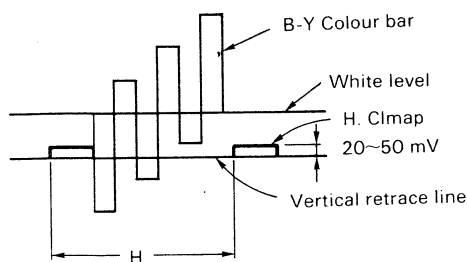

Figure 2.
3. Adjust LM53 so that the white level in picture part reaches to the vertical retrace line. (See Figure 2.)